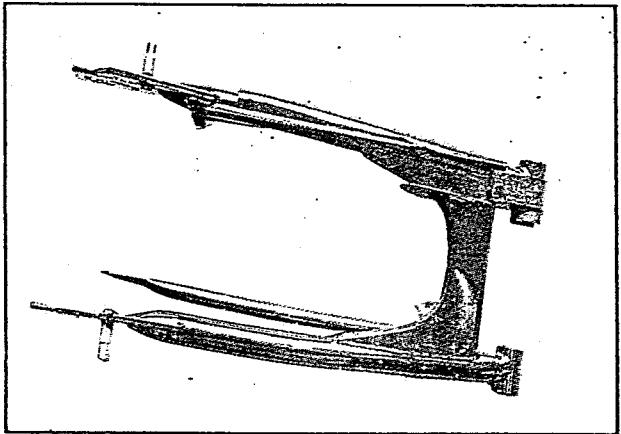

Fig 6.69
- Inspect the distortion of the swing arm (fig 6.69)